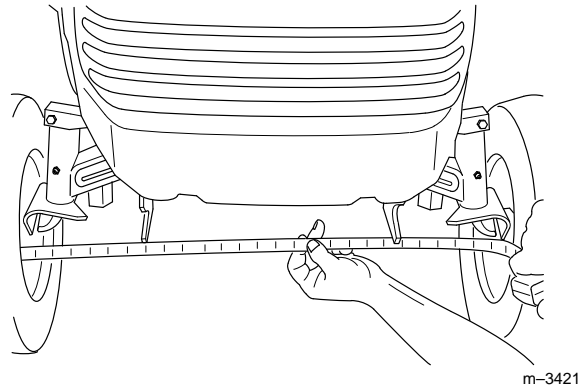

Figure 45
Maintaining correct front wheel toe-in is important for safety, Smart Turn™ Steering operation, and ease of use. If uneven tire wear, lawn scuffing or hard steering develop, adjustment may be required. Check the toe-in after every 100 operating hours or once a year, whichever occurs first (Fig. 45).
4. Measure the distance between both of the front tires at spindle level (at the front and rear of the wheels) (Fig. 45).